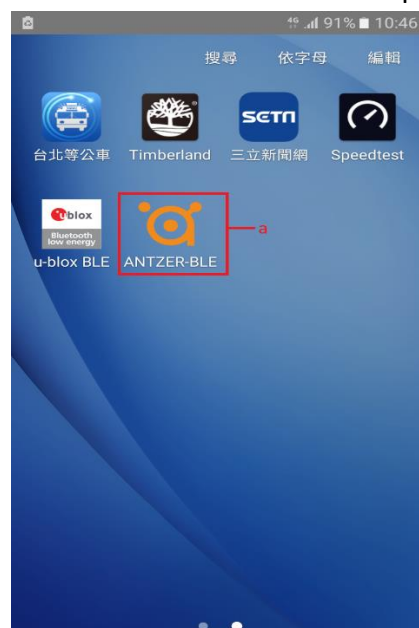

Figure 1
3. It appears an ANTZER-BLE icon on Android cell phone Apps list as Figure 1.